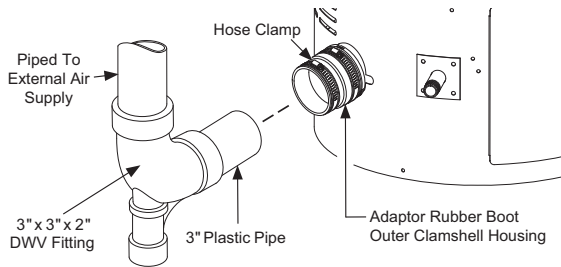

**Figure 13. Remove Plastic Cap**
- Remove and discard the plastic cap from the outer clamshell housing. See Figure 13.